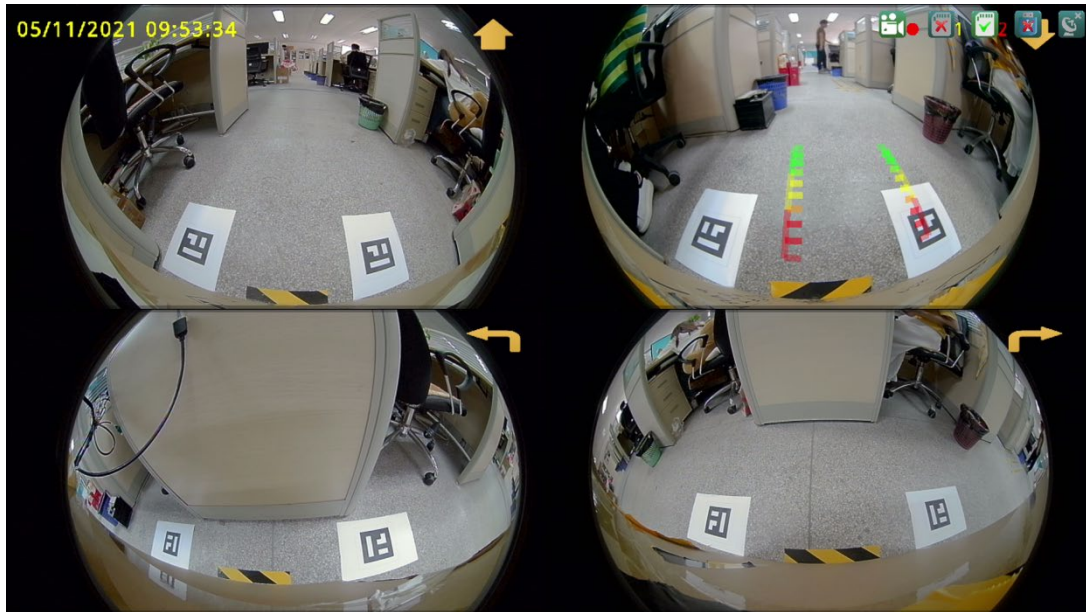

Figure 1.3
1.2 Ensure that the calibration mats in the diagonal area is completely visible in the two adjacent cameras, as shown in Figure 1.3.